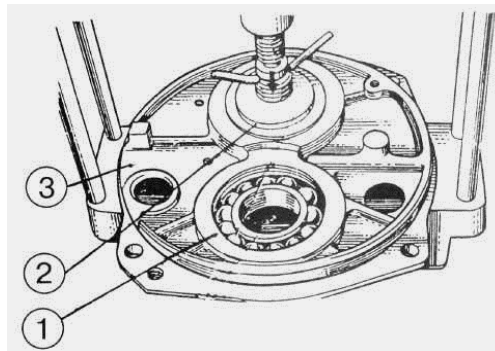

Figure 4.72
d) press off cup 3 (Figure 4.72) bearings 1 and 2.